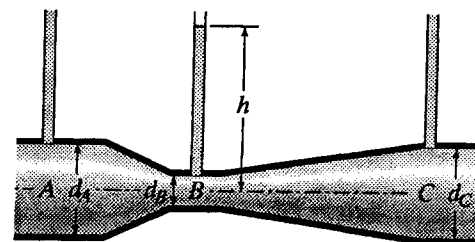

Figure P5.33
5.33 In the constricted pipe of Fig. P5.33 friction loss between A and B is negligible while between B and C it is $0.15(V_B^2/2g)$. Given $h = 750$ mm, $d_A = d_C = 250$ mm, $d_B = 100$ mm. Find the pressure heads at A and C if the liquid is flowing through the circular pipe from A to C at the rate of 280 L/s.